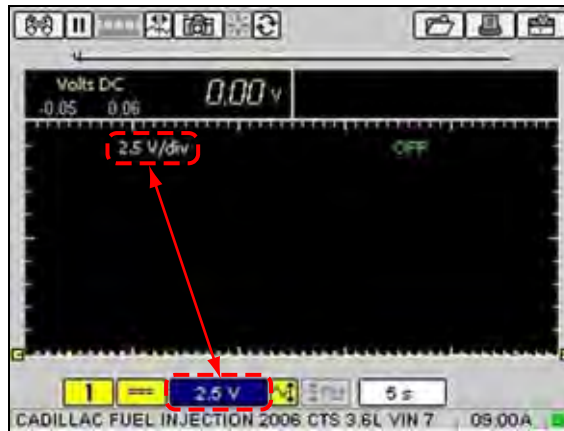

Figure 5-38 Sample Units/Division selection
- **Units/Division**—the scale value for a major grid division is displayed in the Channel Status Area and the Scale button (Figure 5-38).